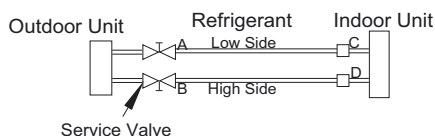

Fig.10 - Service Valve
1. Completely tighten flare nuts A, B, C, D, connect manifold gage charge hose to a charge port of the low side service valve. (See Fig. 10.)